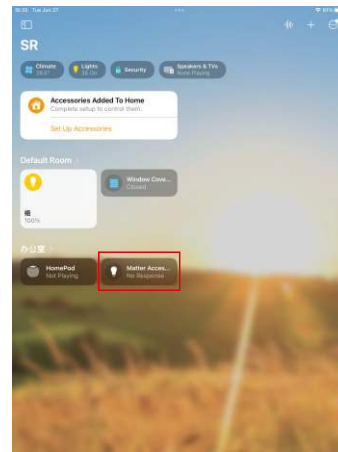
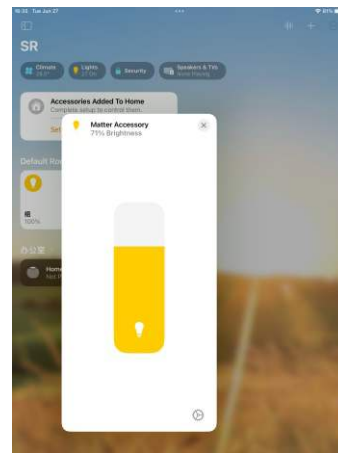

Figure 17
Figure 19
Step 5: once the dimmer is added to the gateway successfully, tap on the device to control on/off and brightness of the dimmer as shown in **Figure 17** to **Figure 19**.